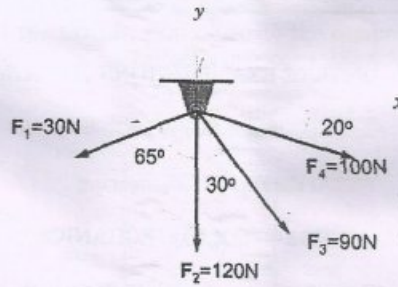

Fig 1.
11. (a) (i) Four forces act on an eye bolt. Determine the resultant of the forces on the bolt as shown in Figure 1. (7)